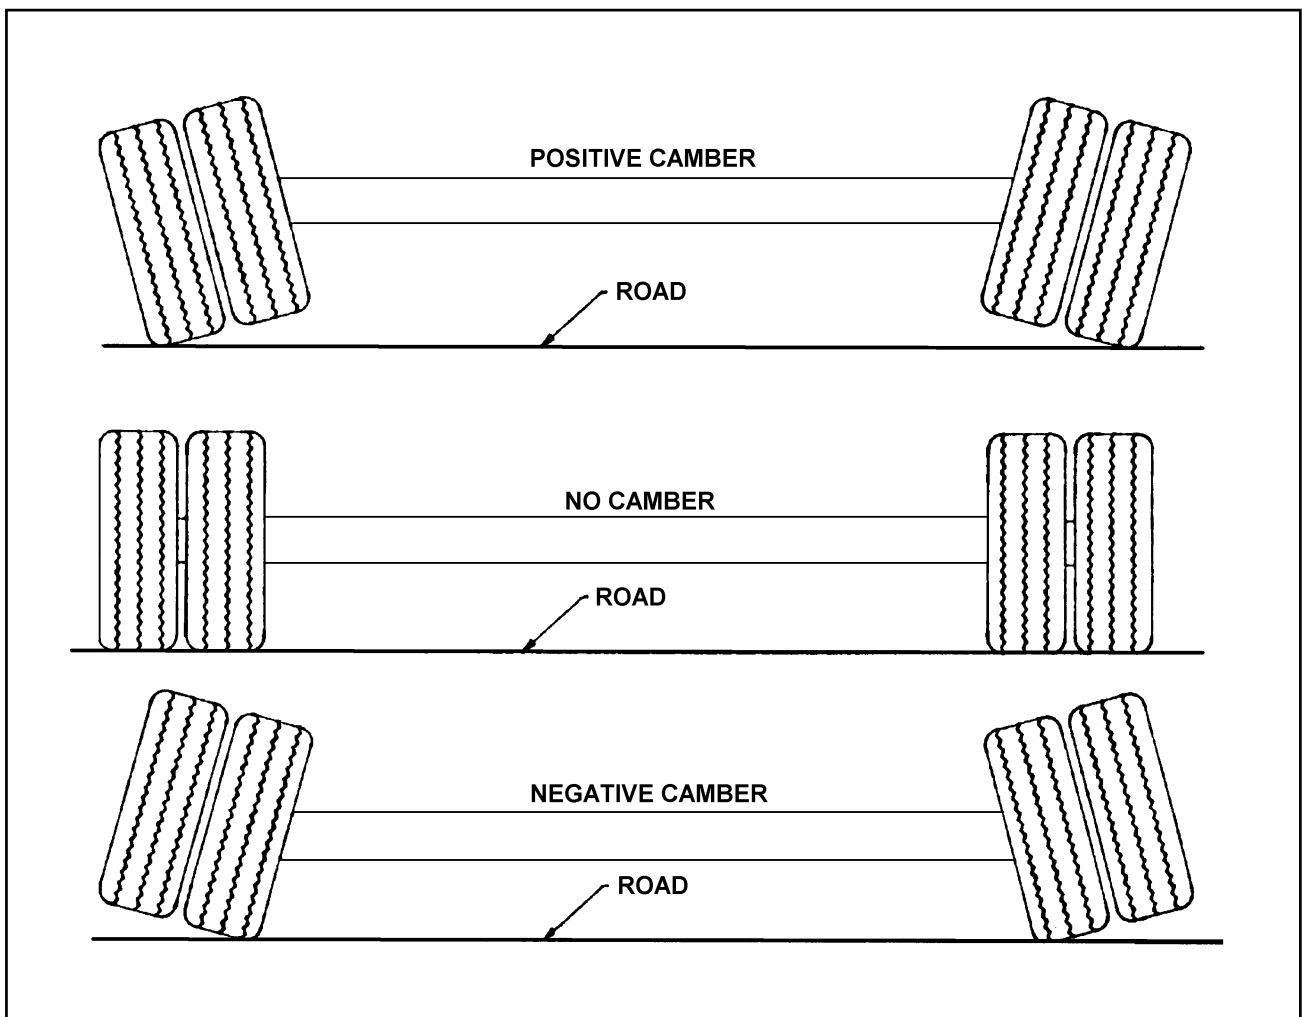

Figure 4-8 Examples of Camber
- d. Follow the same procedures as in Section 4-8.1 b. and c., except place the axle gauge above and below the axle. If gauge point gap is found, the axle has positive or negative camber. The trailer axle has no camber from the factory. If it is found to have positive or negative camber, axle replacement is necessary (See Figure 4-8 for examples of camber).